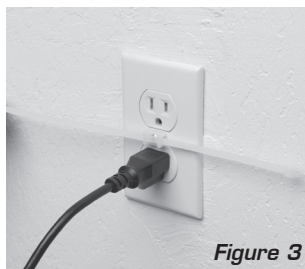

Figure 3
3. Place the screw through the retainer clip and insert into the cover plate making sure to securely tighten. Inset the zip tie through the retainer clip slots as shown in Figure 3.